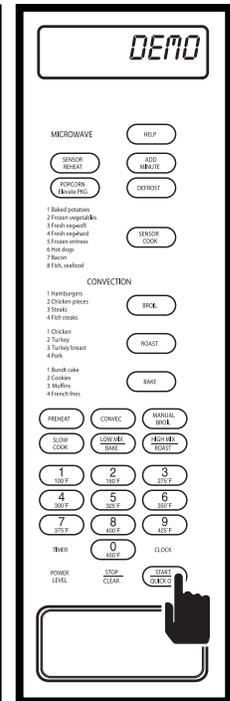

Figure 3-67.
3. Press and hold **QUICK ON/START** for three seconds. Display will flash "DEMO - ON - DURING - DEMO - NO - OVEN - POWER" then show a steady "DEMO" (See Figure 3-67). While in Demo Mode, any of the keys can be pressed and the display will show or flash the appropriate message. If the **QUICK ON/START** key is pressed, the microwave oven will function in all respects except that microwave cooking components will not be energized and the timer on display will abbreviate the count down from minutes to seconds.